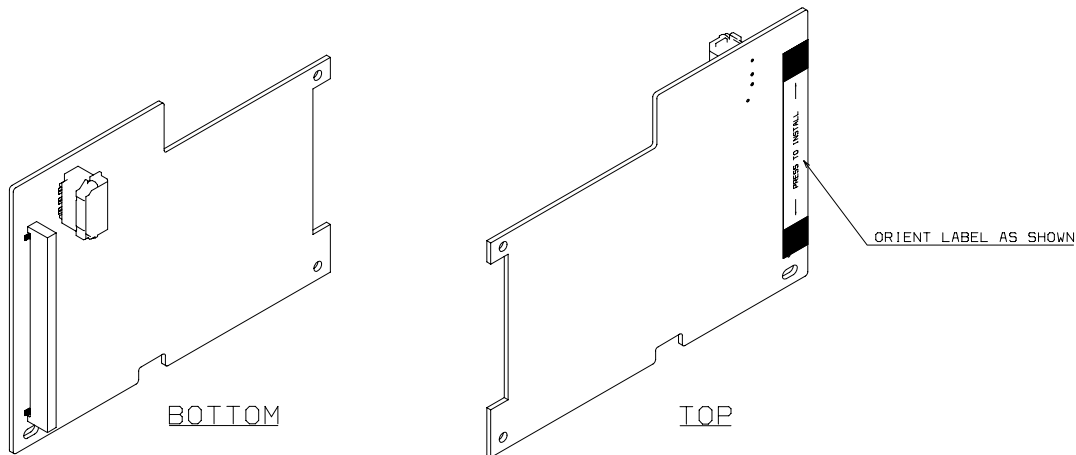

Figure 3.1. I/O Expansion Card (EC) - isometric views
Figures 3.1 through 3.6 are the mechanical drawings for the I/O Expansion Card (EC).
The label shown in Figure 3.1 is used to indicate where to push on the card during installation and shall say “PRESS TO INSTALL”.